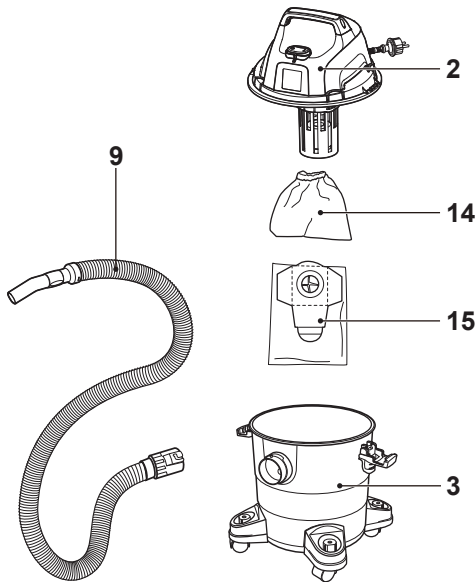

Fig. 4, Dry vacuuming and blowing
- with dust filter (14) and dust bag (15) assembled for dry vacuuming and blowing (Fig. 4)